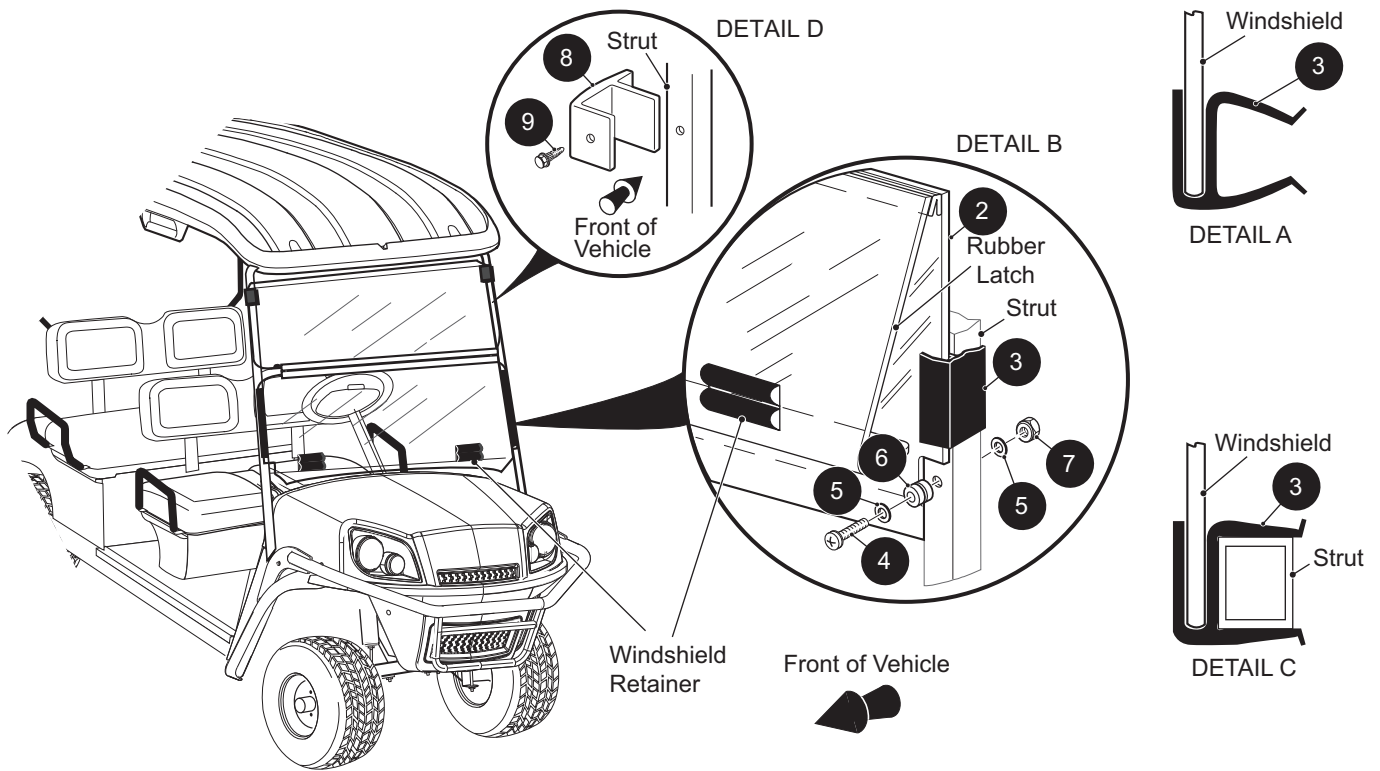

Fig. 2 Split Windshield
SPLIT WINDSHIELD (REF. FIG. 2)
Remove protective covering from the windshield (2) (Ref. Fig. 2).